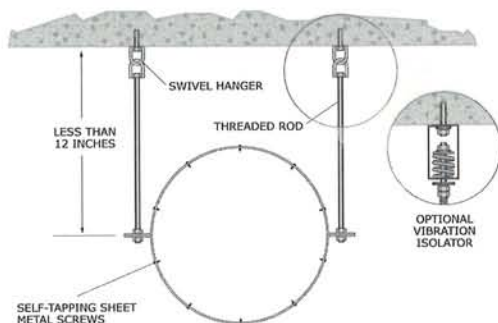
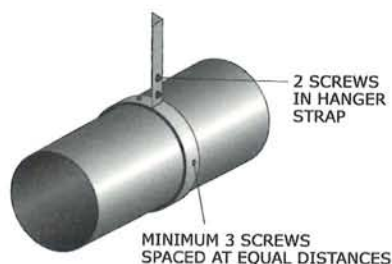
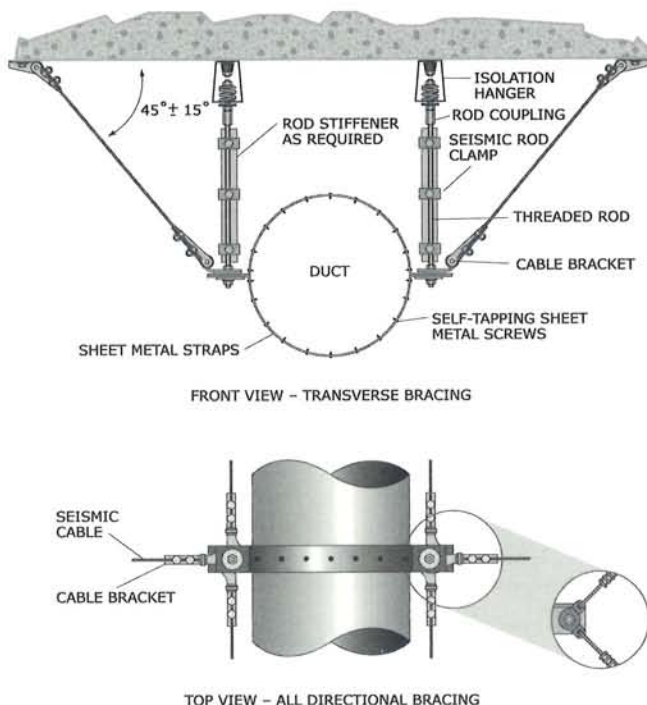

Figure 44: Round duct non-moment-resistant rod support.
Figure 45: Strap support for round duct with steel shaped bracing.
Figure 46: Round duct isolated with vertical rods and braced with cables (all-directional and transverse).
- Vibration-isolated support (see the optional view in Figure 44 below)
Lay out all attachment points before anchoring. Attach as shown in Figure 44 (page 37) and Figure 45 (above).
Connect straps to duct as shown in Figure 45 (above) or assemble duct rod support as shown in Figure 46 (page 39).
Assemble angle bracing and connect to vertical rods as shown in Figure 46 (page 39).